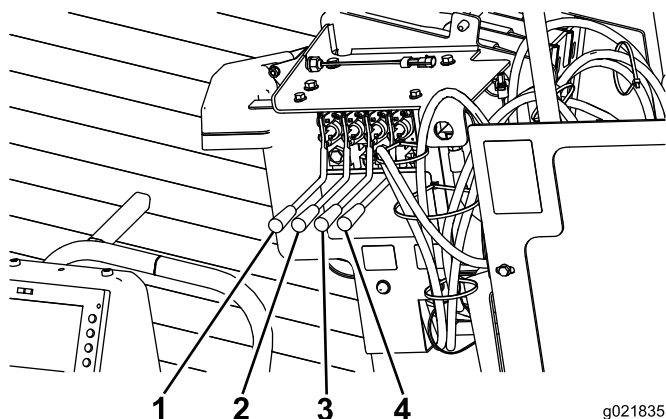

Figure 82
11. Press the 2 right stake levers in to lower and spin the right stake auger until it seats fully (Figure 82).